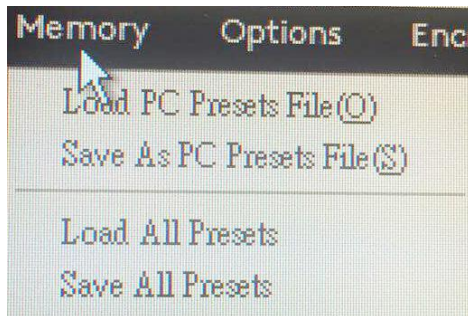

Figure 3.4.1
As shown in Figure 3.4.1 DA-12DSP software of the scene in three major types of actions: the machine stored scene data, computer data stored scene and the whole scene data manipulation.
Step1: Click on the main interface to the top menu " Memory " button will pop up all the scenes action item (see Figure 3.4.1).
step1: Click on the main interface to the top menu " Memory " button will pop up all the scenes action item (see Figure 3.4.1).
step 1: Click on the main interface to the top menu " Memory " button will pop up all the scenes action item (see Figure 3.4.1).
step1: Click on the main interface to the top menu "Memory" button will pop up all the scenes action item (see Figure 3.4.1)